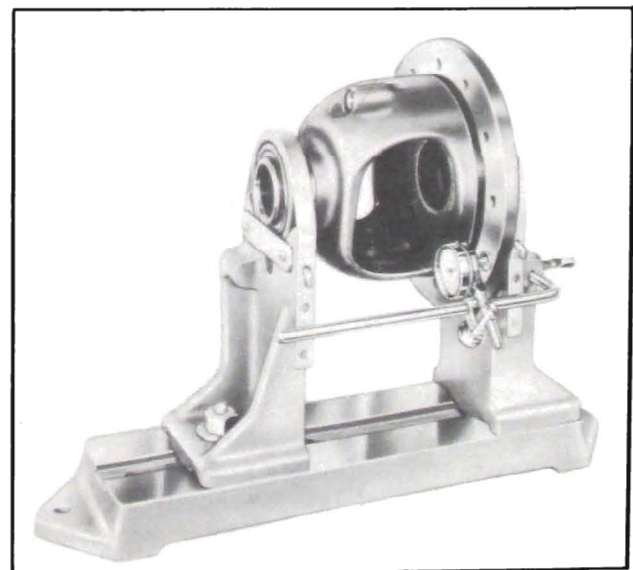

Figure 5-15—Checking Run-Out of Case Flange in Fixture U 4-B
3. After removal of gear, check machined face of case flange for burrs, particularly around rivet holes. Clean off all burrs with a mill file. Place case in Test Fixture U4-B and check run-out of machined surface of flange with dial indicator. See figure 5-15. Case may be located in fixture upon side bearings as illustrated, or upon bearing seats if bearings are removed from case. If run-out exceeds .002", the flange must be trued up in a lathe to not over .002" run-out.